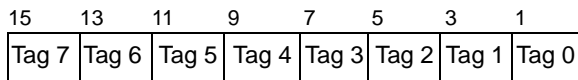

Figure 2-16 Tag Word Register
FPU Tag Word Register. The processor maintains a tag word register comprised of two bits for each physical data register. Tag Word fields assume one of four values depending on the contents of their associated data registers, Valid (00), Zero (01), Special (10), and Empty (11). Note: Denormal, Infinity, QNaN, SNaN and unsupported formats are tagged as “Special”. Tag values are maintained transparently by the processor and are only available to the programmer indirectly through the FSTENV and FSAVE instructions. The tag word with tag fields for each associated physical register, tag(n), is shown in Figure 2-16.